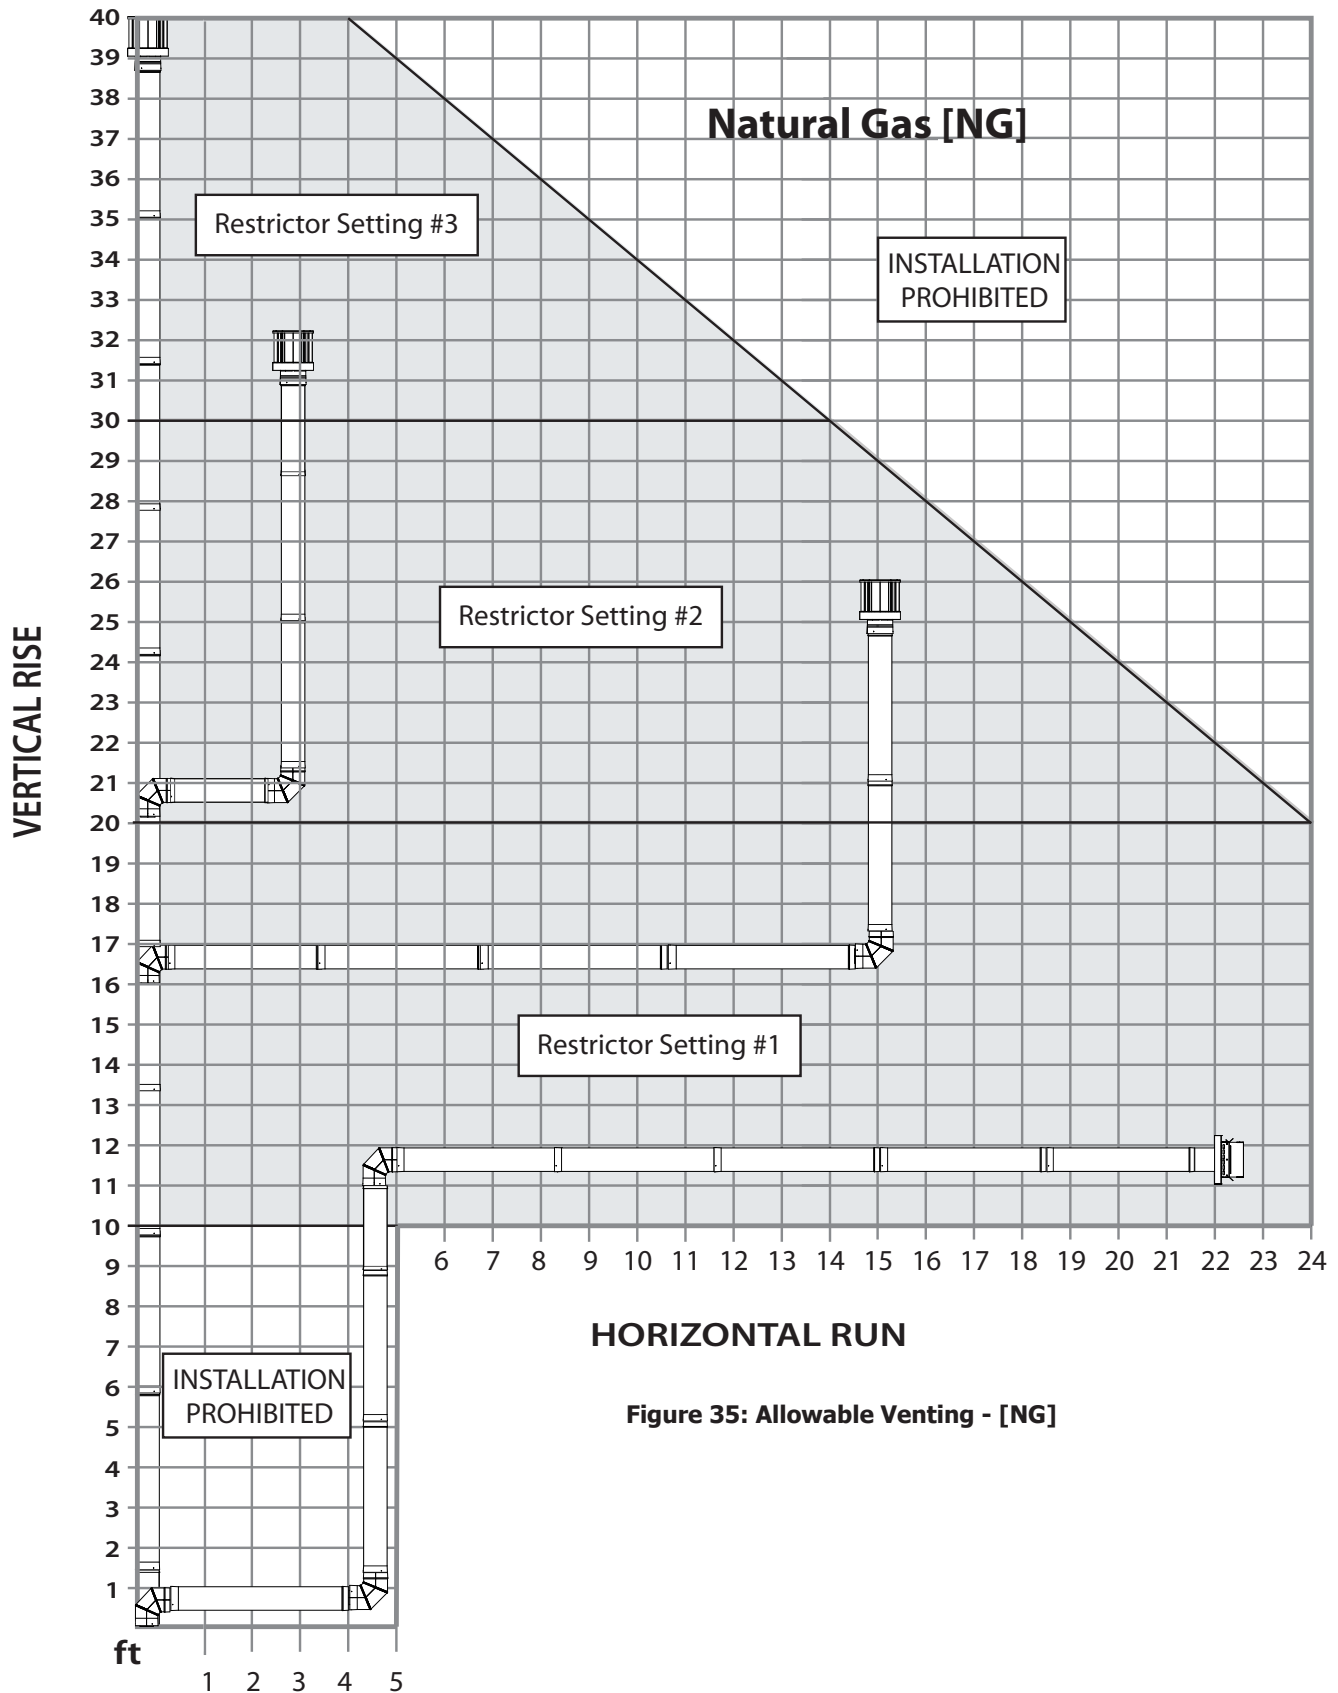

Figure 35: Allowable Venting - [NG]
The following charts show the range of venting options available using either vertical or horizontal terminations in conjunction with 0 - 3 90° elbows in the vertical plane. Any planned layout that remains within the shaded areas is acceptable. Having the fewest number of elbows is ideal as they restrict air flow. The **total length of horizontal vent pipe can not exceed 24ft (7.3m)** and the **total vertical length can not exceed 40ft (12.2m)**. Any combination of rise and run can be used as long as it lays within the shaded areas of the following charts. A total of three (3) 90° elbows or six (6) 45° elbows can be used as shown in Figures 35 & 36. In addition to what is shown, if a 90° elbow is used in the horizontal plane, 3 ft (91.4cm) must be subtracted from the allowable horizontal run (for each 45° elbow, 1.5ft (45.7cm) must be subtracted).